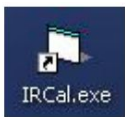
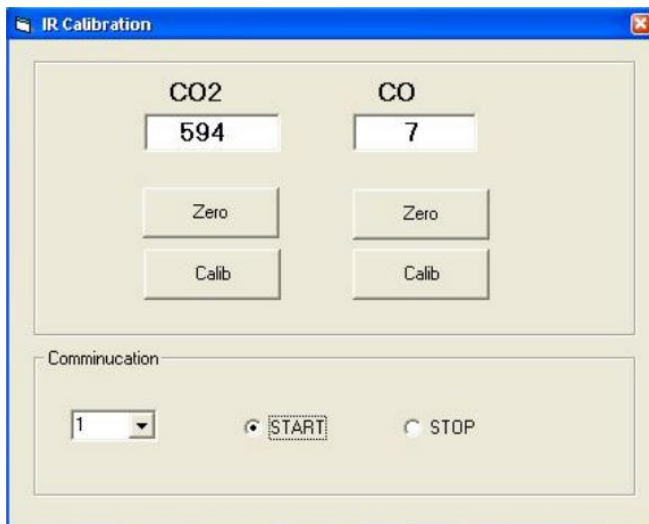

Figure 30. Shortcut to IR Calibration.
Figure 31. IR Calibration Screen.
5. Click the **IRCal.exe** shortcut icon (Figure 30) to open the *IR Calibration* screen (Figure 31).